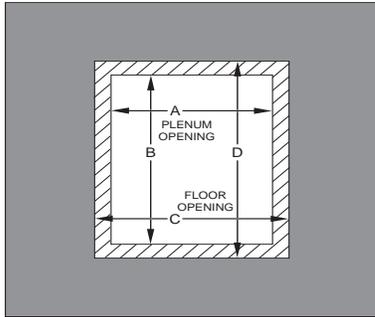
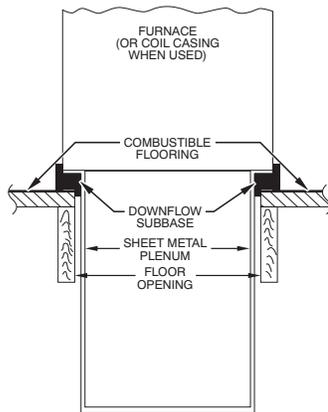

Fig. 10 – Floor and Plenum Opening Dimensions
Fig. 11 – Furnace, Plenum, and Subbase Installed on a Combustible Floor
2. Construct hole in floor, see Table 3 and Fig. 10.
3. Construct plenum to dimensions specified, see Table 3 and Fig. 10.
4. If downflow subbase is used, install as shown, see Fig. 10. If Coil model number END4X, ENW4X or Coil Casing model number NAEA is used, install as shown, see Fig. 11.